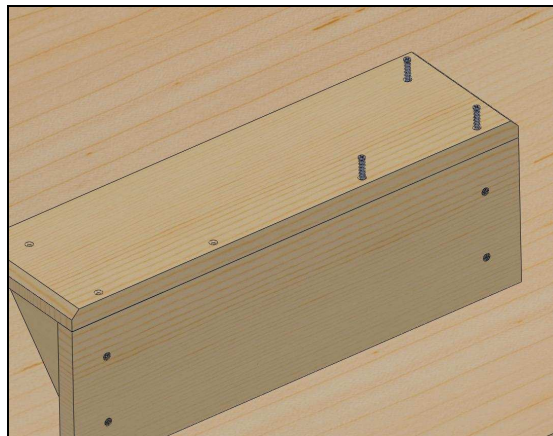

Figure 15: Hold the top piece tight against the bottom assembly to mark pilot holes.
- A. Use the same method of finding the gusset pilot holes in Step 9 with the top piece, see Figure 15.